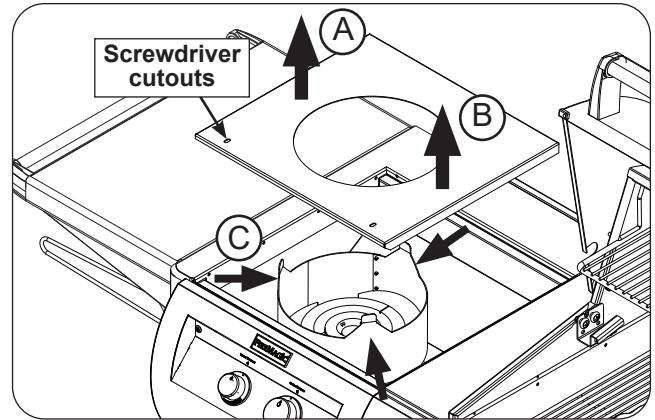

Fig. 45-1 Interior protection plate removal
2. Lift up the interior protection plate from the left side, then lift up from the right side (see Fig. 45-1, A and B).
3. While lifting the plate upward, flex the collimator inward to completely free the protection plate (see Fig. 45-1, C).